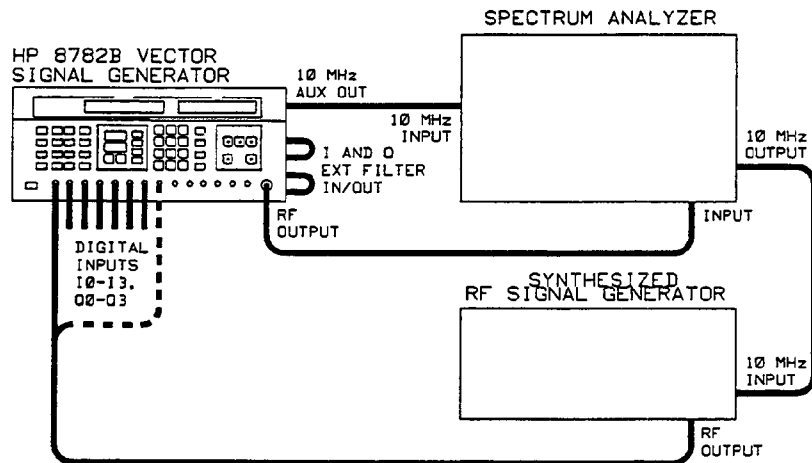

Figure 5-9. Asynchronous Data Rates Test Setup
1. Connect the equipment as shown in Figure 5-9. Set the settings as shown in the table above. Be sure to connect the two jumper cables across the Vector Signal Generator's rear panel external filter in/out connectors. Set the rear panel TIME BASE switch to INT. There is no need to recalibrate at this time.